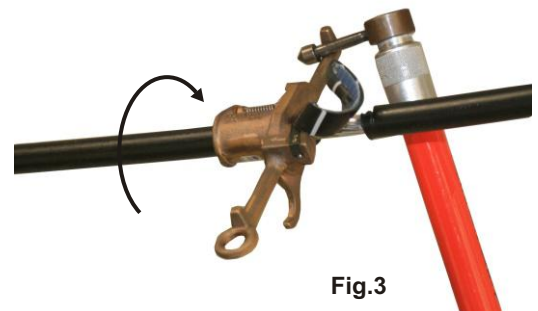

Fig.3
3. Remove shotgun and proceed to rotate stripper in a clockwise direction (when viewed from the knife end) with hotstick until the desired length of conductor is stripped. If cable turns while stripping, install a cable clamp over cable and hold taut with another hotstick. To cut off insulation, hold back with hotstick while rotating tool to counteract normal advance of tool. (Fig.3)